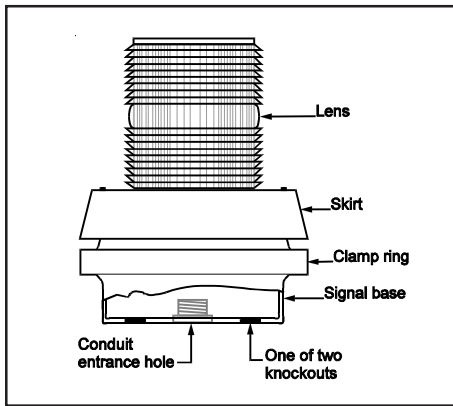

Figure 3. Catalog Series 51 Flashing Lights with Horn
**51 Series:** See Figure 3. Remove the screw in the clamp ring, remove the ring, lift the lens/lamp assembly off of the base, and pull the wire leads out of the conduit entrance hole in the base. Proceed to step 2 for installation of the base.
**51 Series:** See Figure 3. Remove the three screws from the top of the skirt and lift off the lens and skirt. Replace the lamp.